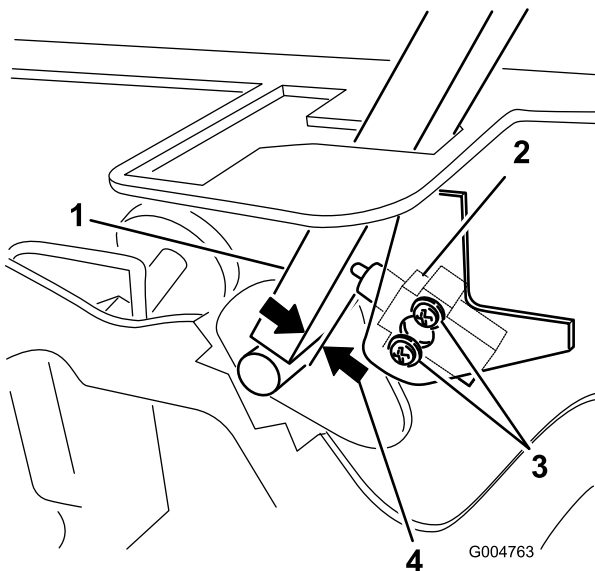

Figure 59
3. Loosen the 2 screws securing the interlock switch (Figure 59).
4. Holding the control lever against the frame, move the switch toward the lever until the distance between lever and switch body is 0.015 to 0.045 inch (0.4 to 1 mm) (Figure 59).